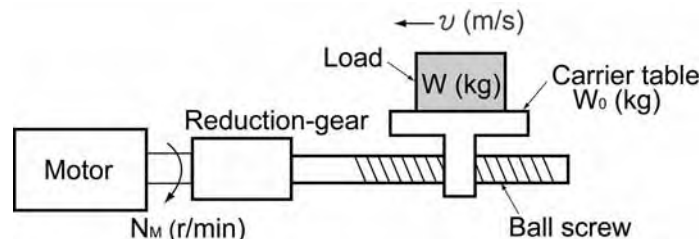

Figure 7.7 Moving a Load Horizontally
A simplified mechanical configuration is assumed as shown in Figure 7.7. If the mass of the carrier table is W_0 kg, the load is W kg, and the friction coefficient of the ball screw is μ , then the friction force F (N) is expressed as follows, which is equal to a required force for driving the load:
Assume a carrier table driven by a motor as shown in Figure 7.7. If the table speed is v (m/s) when the motor speed is N_M (r/min), then an equivalent distance from the rotation axis is equal to $60 \cdot v / (2\pi \cdot N_M)$ m. The moment of inertia of the table and load to the rotation axis is calculated as follows: